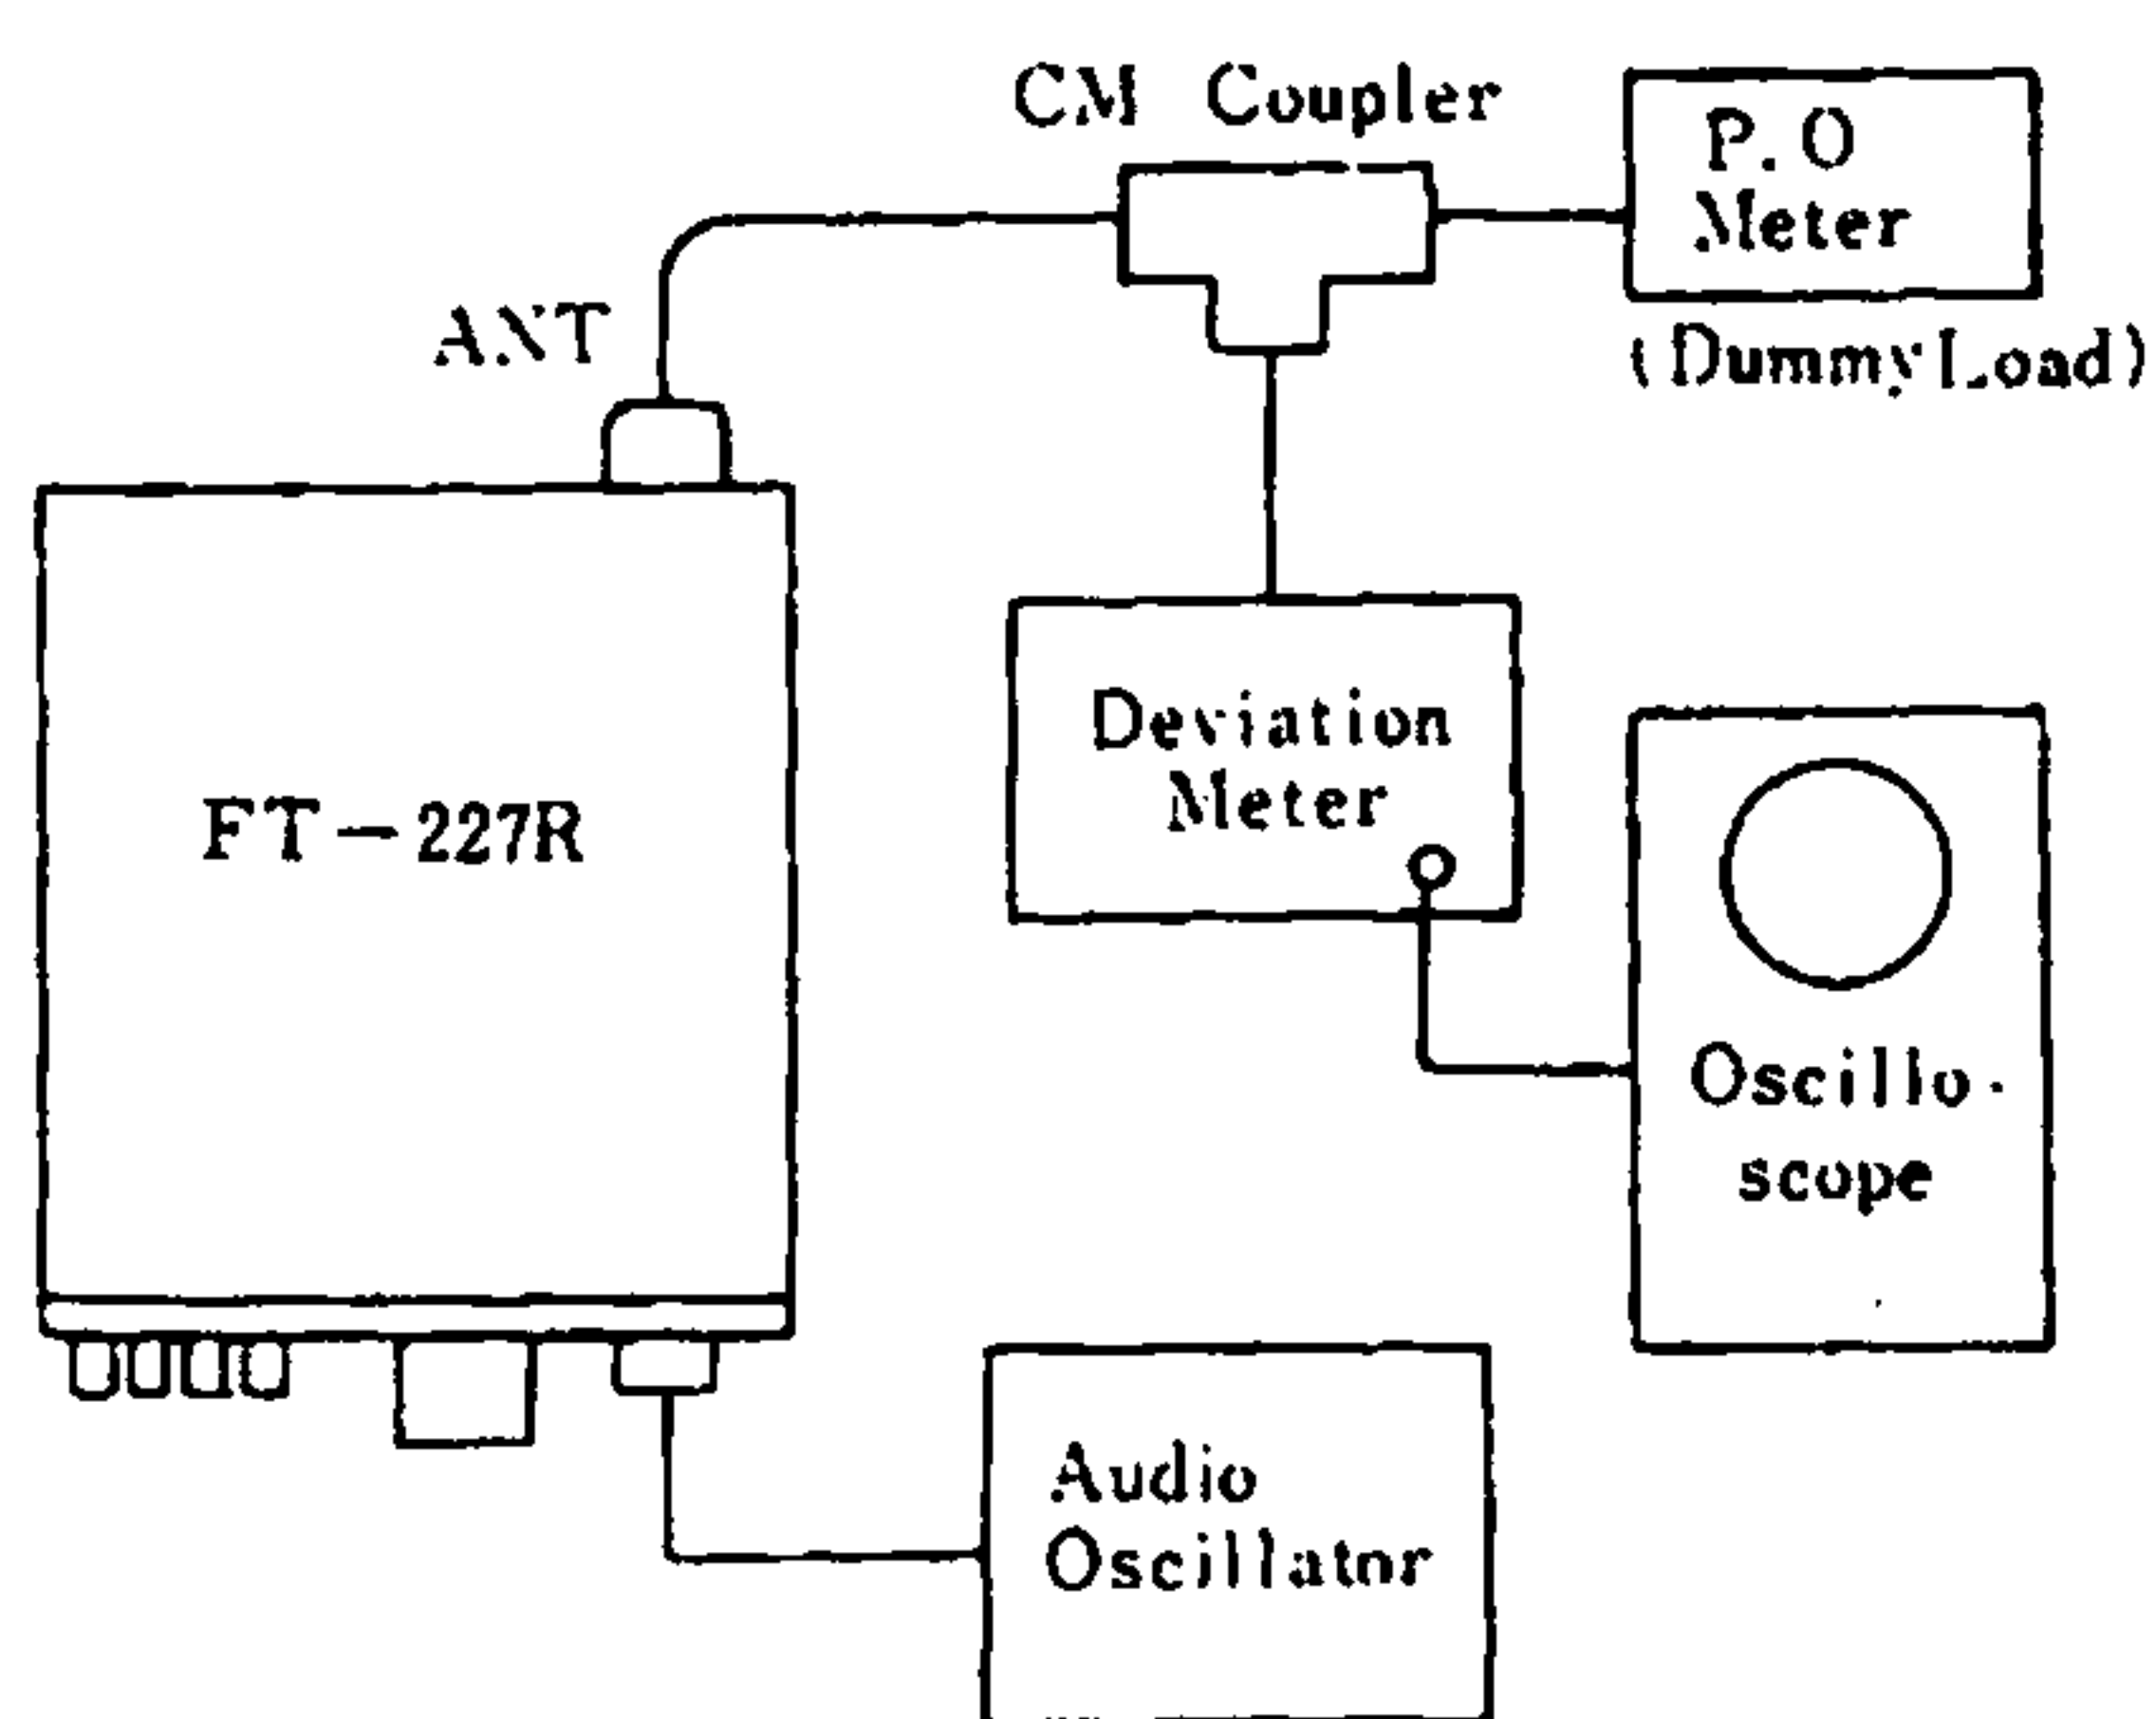

Figure 13
(4) Deviation
- a) Connect YP-150 to the antenna connector, the output of an audio oscillator between pin 2 (hot) and 1 (ground) of microphone receptacle and a deviation meter as illustrated in Fig. 13. Set the audio output level to 25 mV at 1 kHz.